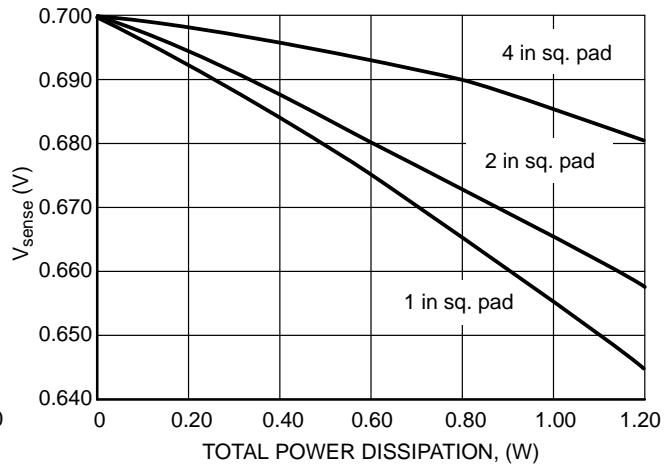

Figure 2. V_{sense} vs. Total Power Dissipation
- a. $R_{ext} = V_{sense} / I_{LED}$ (see Figure 2)